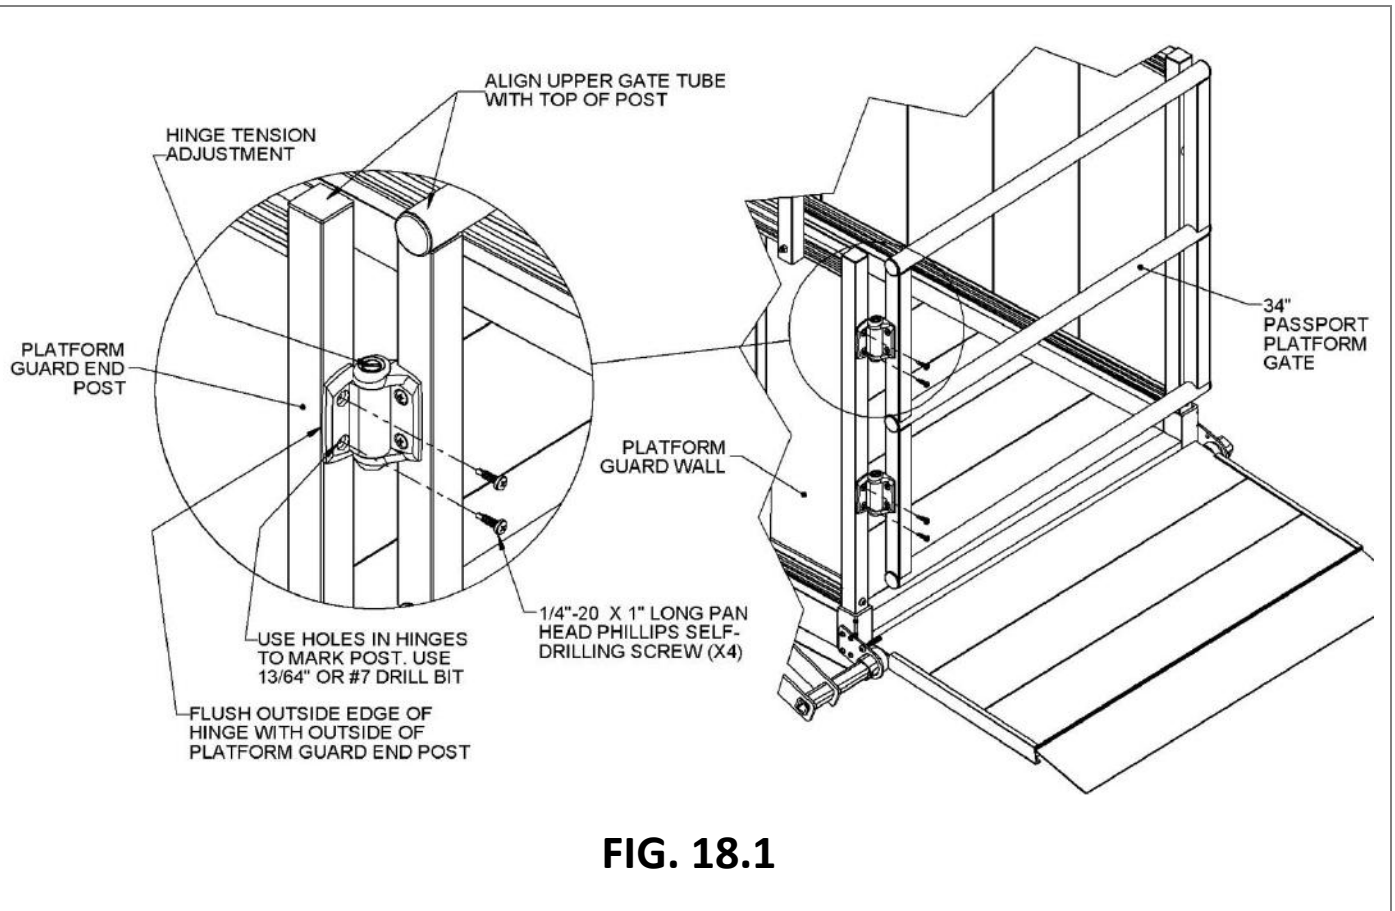

FIG. 18.1
- 18.2.3. Further position the platform gate so the top of the upper tube aligns with the top of the platform guard end post. Flush the outside edge of the hinge with the outside edge of the platform guard end post (FIG. 18.1).
- 18.2.4.2. C-clamp the platform gate in place and drive four 1/4"-20 X 1" pan head Phillips self-drilling screws through the holes in the hinge and into one wall of the post (FIG. 18.1).